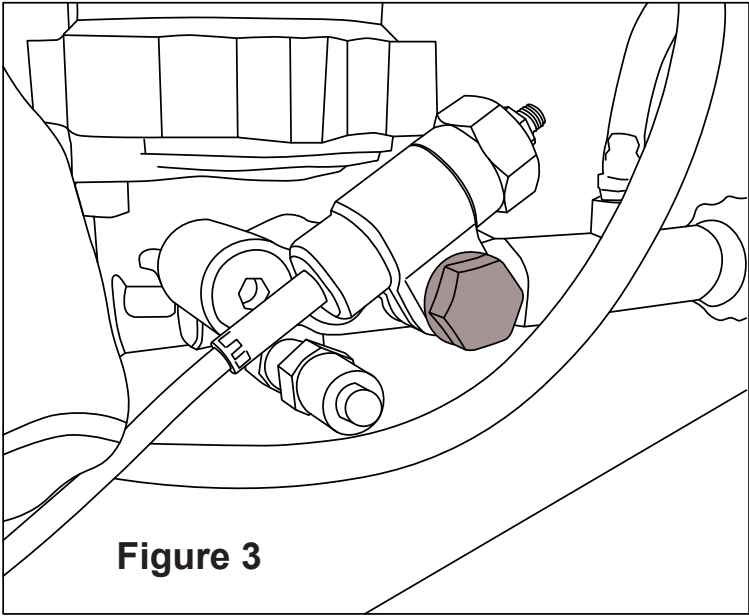

Figure 3
3. Use a 17mm socket and driver to remove the idle valve from the pump. (Figure 3)